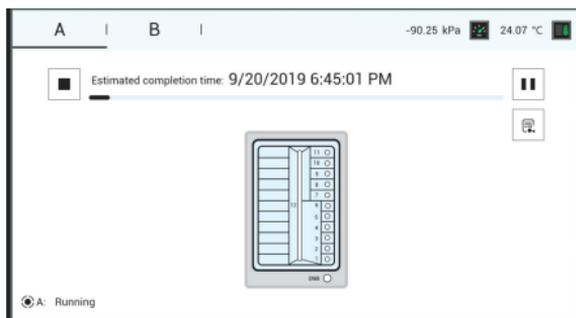

Figure 5-7: MGIDL-T7 Flow Cell Loading Interface
- Flow cell loading starts as shown in Figure 5-7: